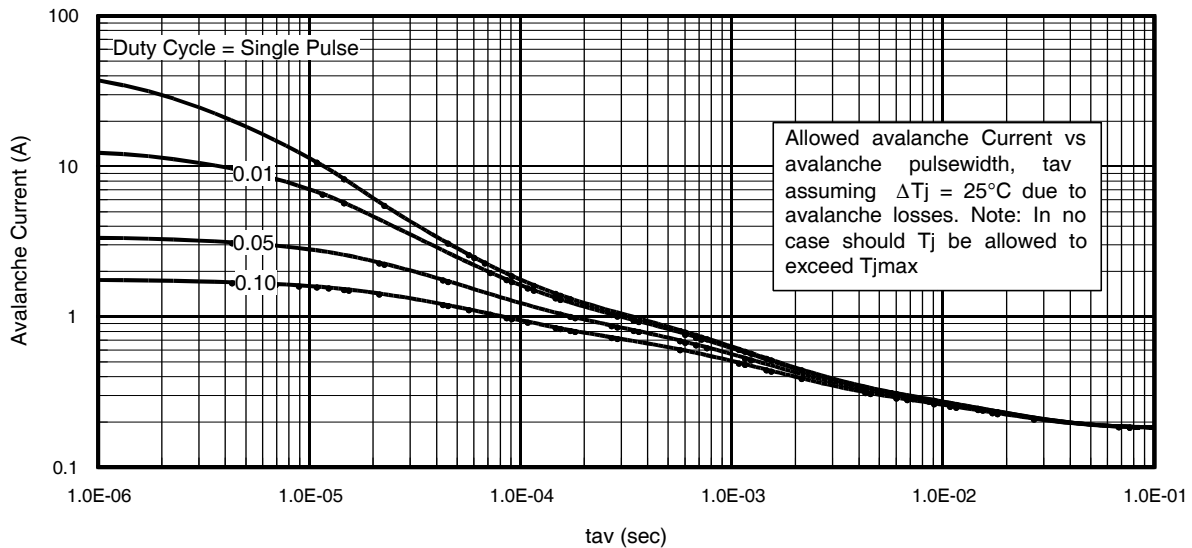

Fig 14. Typical Avalanche Current Vs. Pulsewidth
- ① Repetitive rating; pulse width limited by max. junction temperature.
- ② Starting $T_J = 25^\circ\text{C}, L = 1.78\text{mH}, R_G = 25\Omega, I_{AS} = 12A$.
- ③ Pulse width $\leq 400\mu s$; duty cycle $\leq 2\%$.
- ④ R_{θ} is measured at T_J of approximately 90°C .
- ⑤ Limited by T_{jmax} . See Figs. 14, 15, 17a, 17b for repetitive avalanche information
Notes on Repetitive Avalanche Curves , Figures 14, 15:
7. ΔT = Allowable rise in junction temperature, not to exceed T_{jmax} (assumed as 25°C in Figure 14, 15).